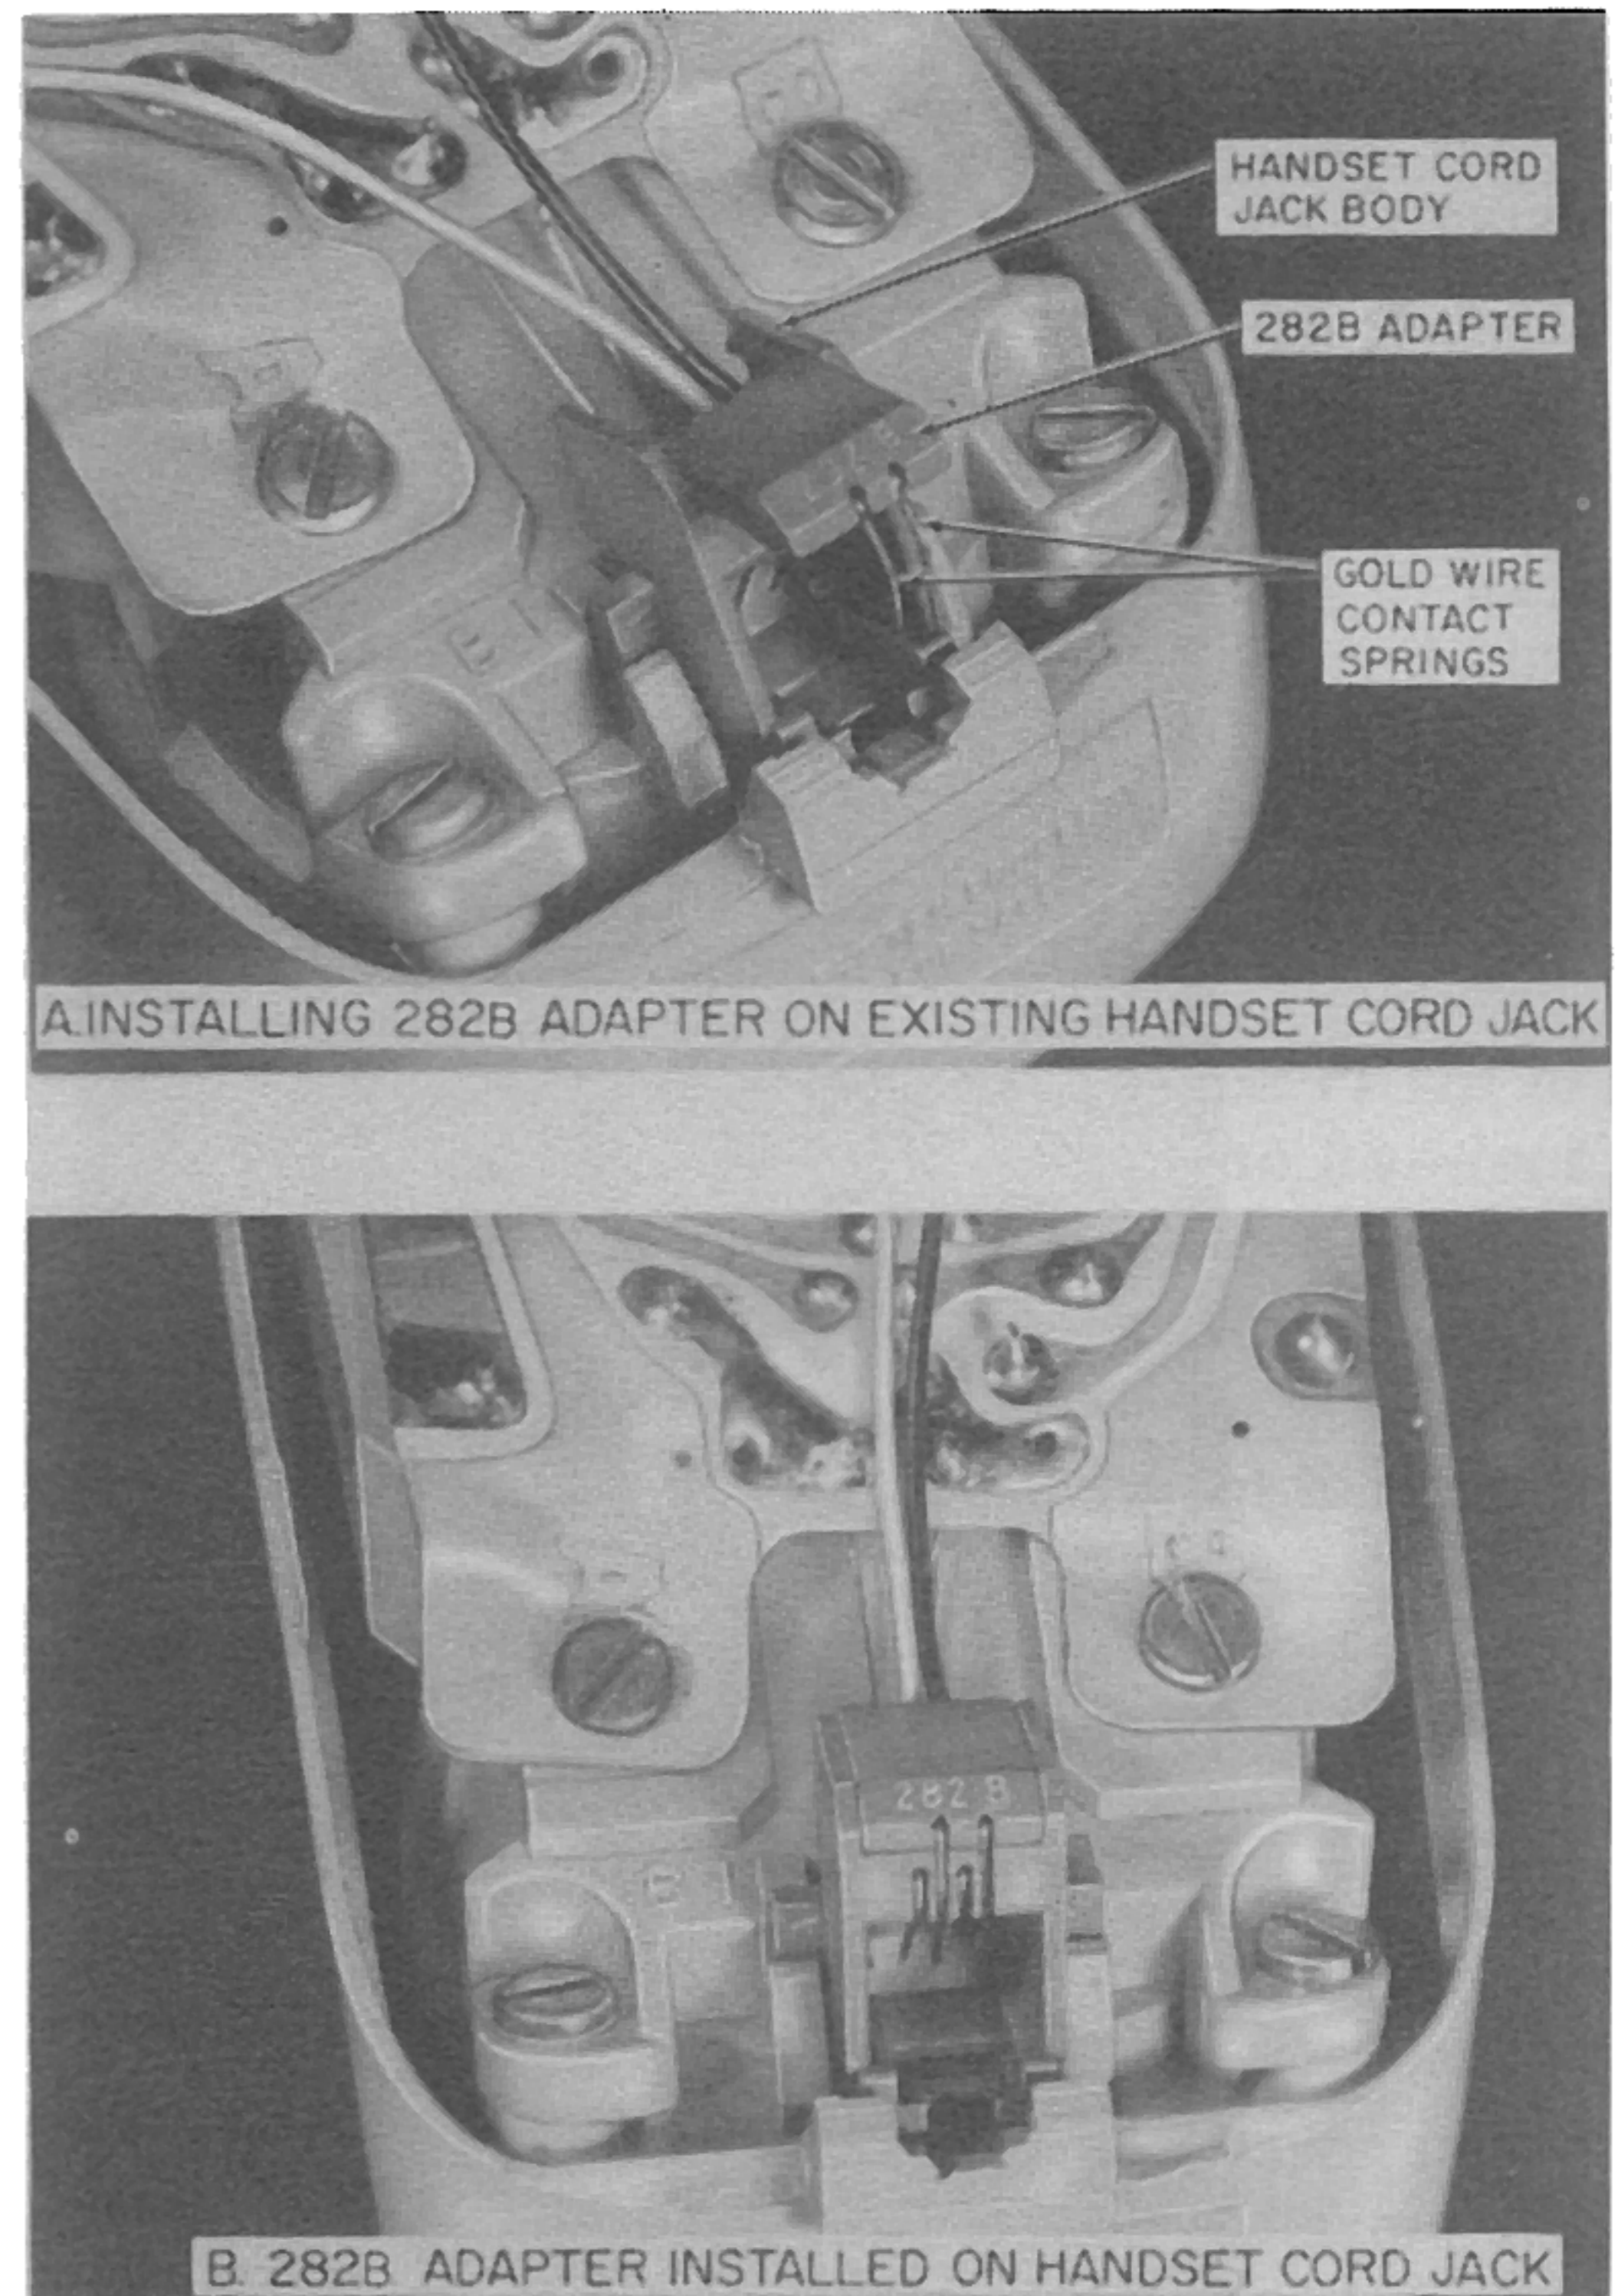

Fig. 9—D-180825 Kit of Parts Installed in 220C, 226A, 2220C, or 2226A Hand Telephone Set
- (1) Remove shell from handset, paragraphs 3.01 and 3.02.
- (2) Install the 282A (MD) or 282B adapter onto the existing handset cord jack by positioning the adapter on the handset cord jack body as shown in Fig. 9. Slide the adapter into the jack body until locked into place. When correctly assembled, the two gold wire contact springs of the adapter will be positioned in the formerly vacant slots of the jack paralleling the existing gold contact springs (Fig. 9).
- (3) Connect the (Y) and (BK) spade-tipped leads of the adapter to terminals A and 4, respectively, of the network.
- (1) Remove the shell from handset, paragraphs 3.01 and 3.02.
- (2) Position the 282B adapter furnished in the kit on the existing handset cord jack body as shown in Fig. 9.
- (3) Slide the adapter into the body until locked into place. When correctly assembled, the two gold wire contact springs of the adapter will be positioned in the formerly vacant slots of the jack paralleling the existing gold contact spring (Fig. 9).
- (4) Remove the screw from the flexible circuit tab (network) at receiver terminal C. Insulate the tab.
- (5) Insulate the shank portion of the (BK) adapter spade-tipped lead and connect to the receiver terminal vacated by the flexible circuit tab.
- (6) Connect the (Y) adapter lead to terminal 5 on the flexible circuit board (network). Insulate the shank portion of the spade tip.
- (7) Replace the handset shell, paragraph 3.03.